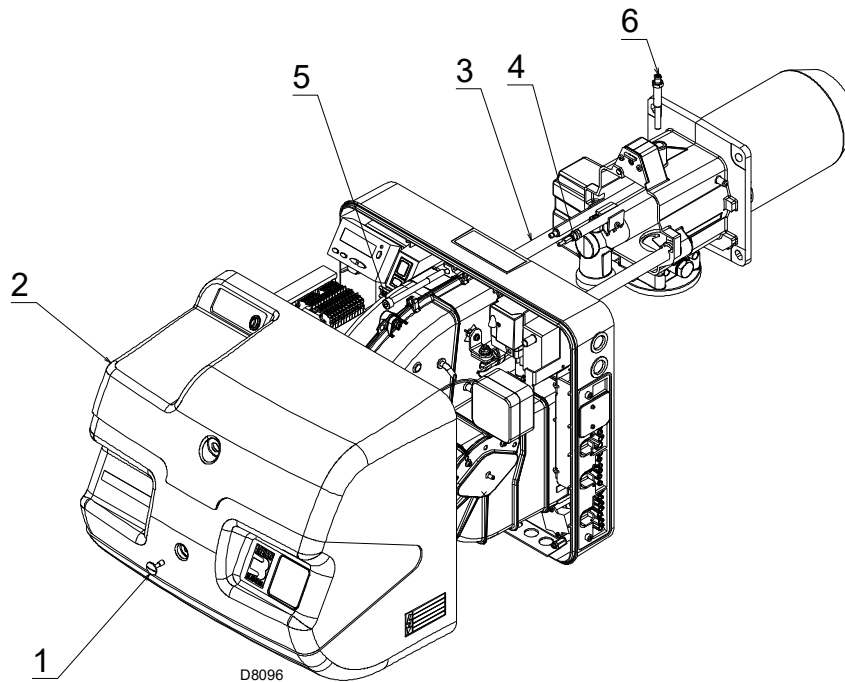

Fig. 36
- Loosen the screw 1)(Fig. 36) and remove the cover 2).
- Remove the screw 5)(Fig. 36) and pull back the burner on the guides 3) by about 100 mm.
- Tighten the screws 5)(Fig. 36) and carefully pull the probe and electrode cables outwards until they are slightly taut.